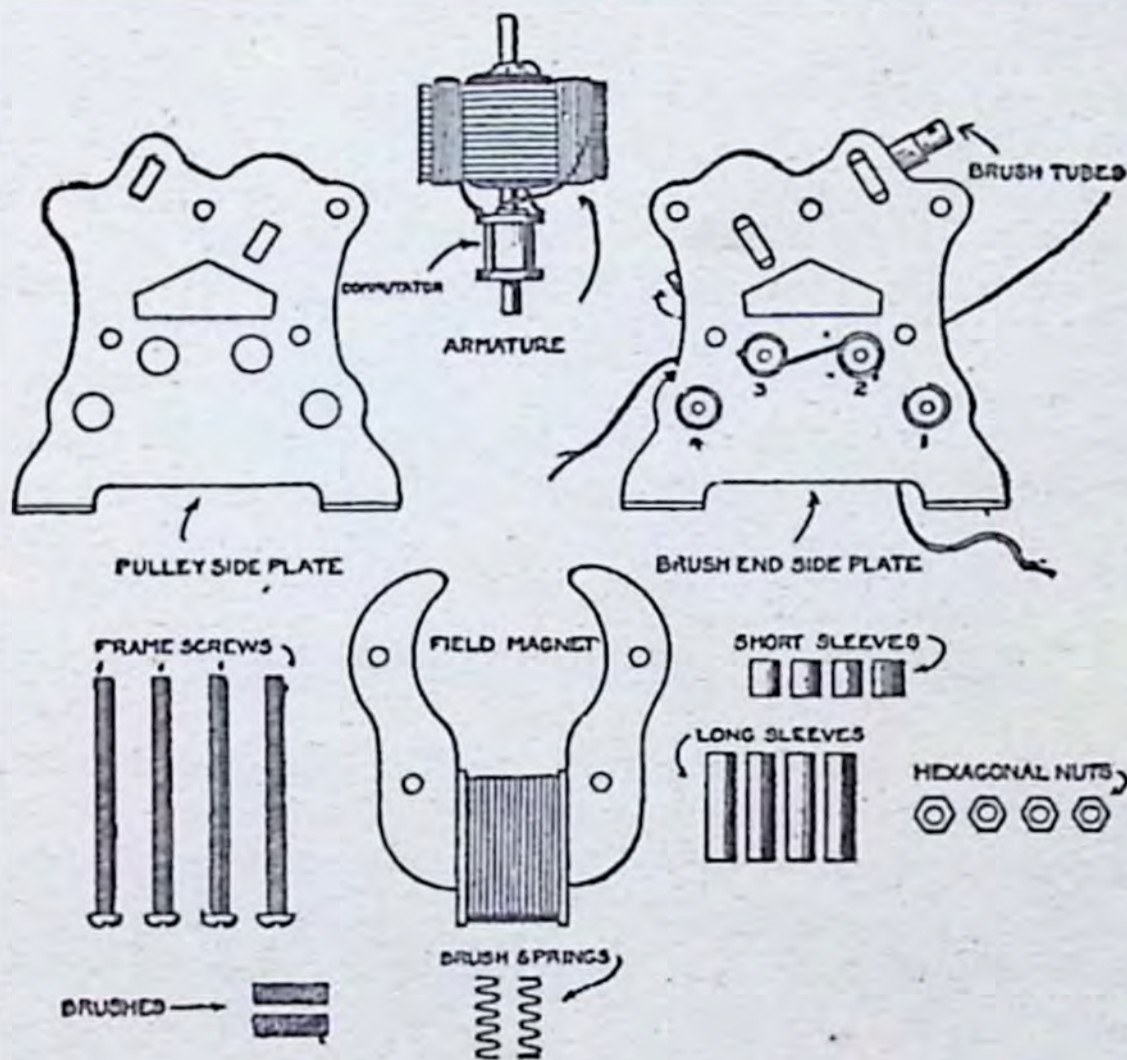

Fig. 12
**(15) THE PARTS OF YOUR MOTOR:** All of the parts of the motor are shown and named in Fig. 12. By referring to these parts, you will readily understand the instructions given below which tell you how to put your motor together.
You will find the names of the parts in Fig. 12. The brush end side plate and the field magnet are first connected by fastening the lower wire from the field winding to insulated binding screw No. 2, and the upper wire to insulated binding screw No. 4. Be sure to scrape the cotton covering from the wire ends and scrape the copper bright and shiny where it goes under the screw heads. All joints in electrical apparatus must be clean and tight or the current will not flow. In your part boxes you will find the frame screws ( $1\frac{5}{8}$  inches long under the screw head) and four sleeves